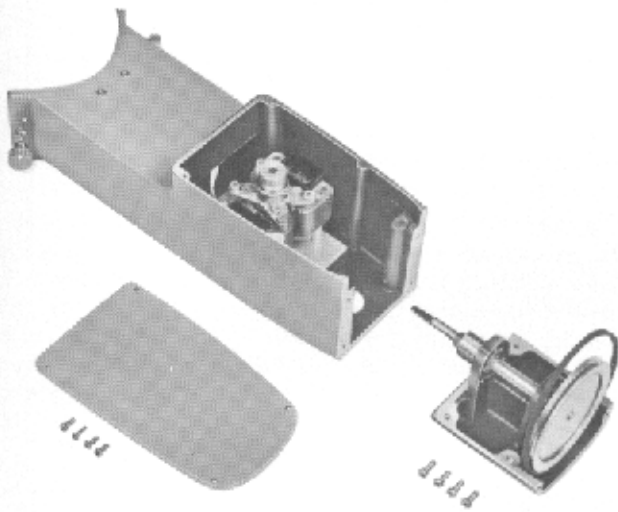

FIGURE 26
- a. Disassemble the supply reel arm as shown in figures 26 and 27.